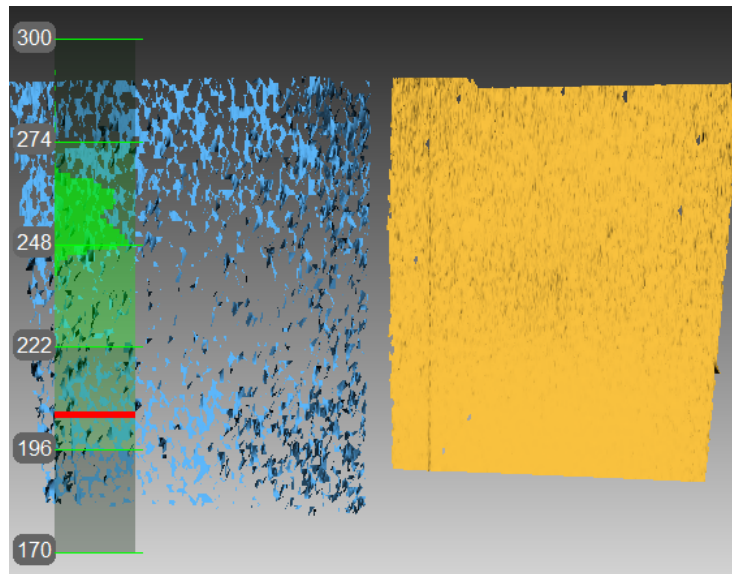

Figure 11.5: Artec Spider correction results.
In some cases, owing to careless handling or transportation (jolts, accidental drops or some other reason), the scanner may fail to capture surfaces properly. The scanned surfaces may only be partially reconstructed or may contain holes (for example, the results of bad reconstruction are noticeable on the blue surface in Figure 11.5). You can resolve these issues by correcting or calibrating the scanner.
9. Repeat Step 8 three more times. Once you finish, the calculation will start. A yellow plane that corresponds to the surface you captured using the corrected calibration settings will then appear in the *3D View* window (see Figure 11.5).